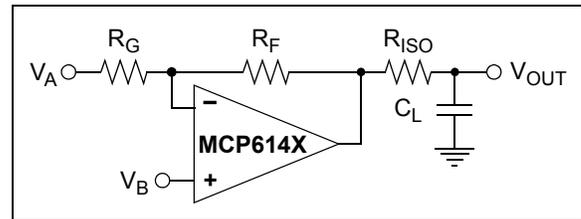

**FIGURE 4-5:** Examples of Unstable Circuits for the MCP6141/2/3/4 Family.
Figure 4-5 shows three example circuits that are unstable when used with the MCP6141/2/3/4 family. The unity gain buffer and low gain amplifier (non-inverting or inverting) are at gains that are too low for stability (see Equation 4-2). The Miller integrator's capacitor makes it reach unity gain at high frequencies, causing instability.
**Note:** The three circuits shown in Figure 4-5 are not to be used with the MCP6141/2/3/4 op amps. They are included for illustrative purposes only.